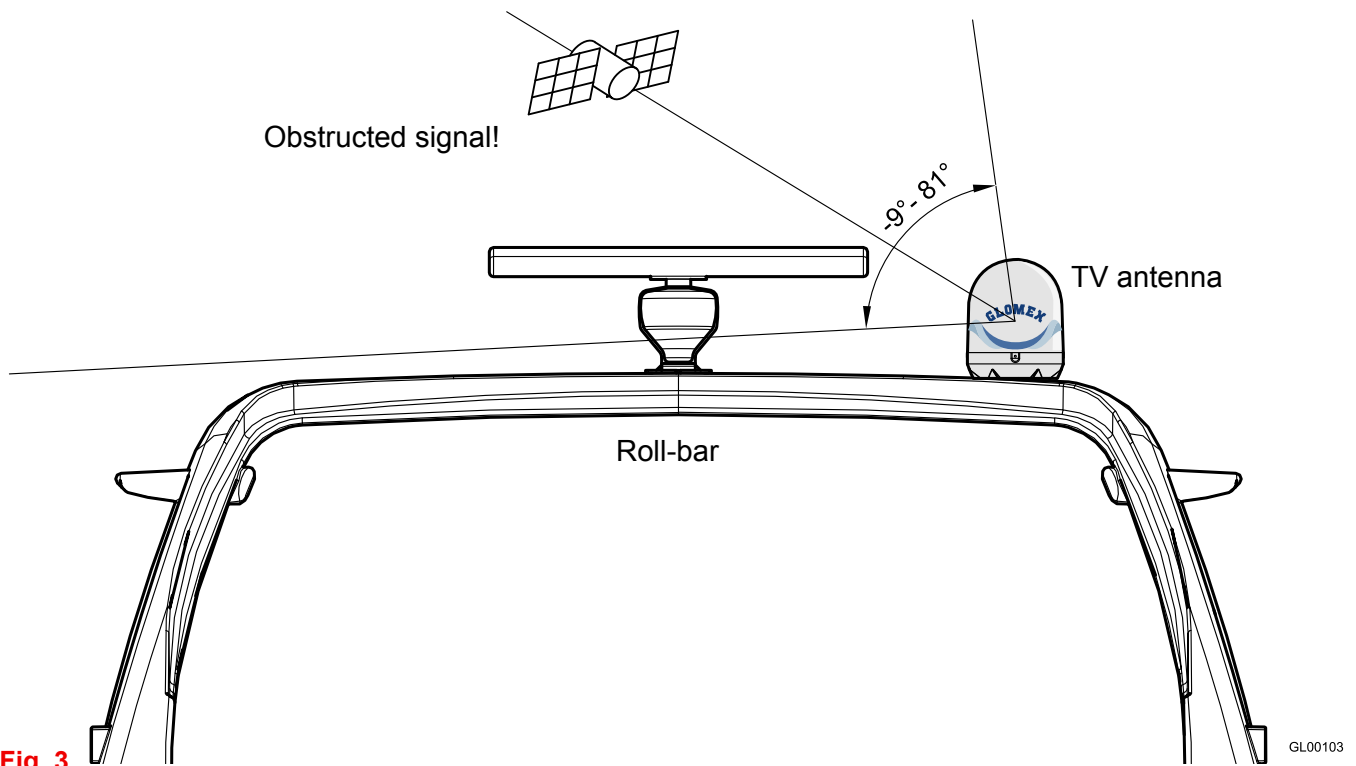

Fig. 3
- the antenna requires a lifting angle between -9° and 81° to receive satellite signals (Fig. 3).